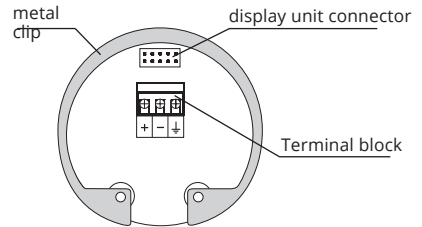

Fig. 17: Inside view of screw terminals of the level meter with current output ULM-70\_--I
5. Connect the cable to the screw terminals according to the diagram in Fig. 17 or 18. Firmly tighten the terminals and the cable outlet.